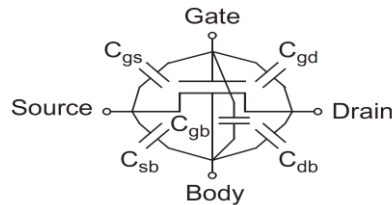

Figure 10: Capacitance of a MOS Transistor
- ✓ In summary, MOS transistor can be viewed as a four-terminal device with capacitances between each terminal pair, as shown in Figure 10.